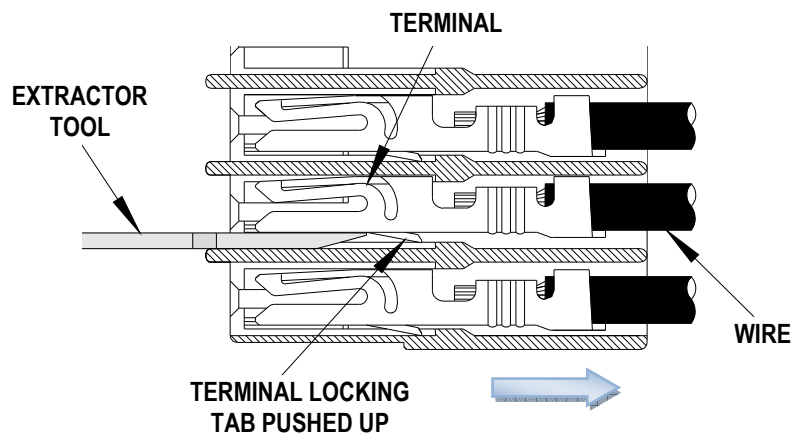

Figure 22
3. Pull the wire and terminal back through the Connector slot in the arrow direction as shown. See Figure 22.